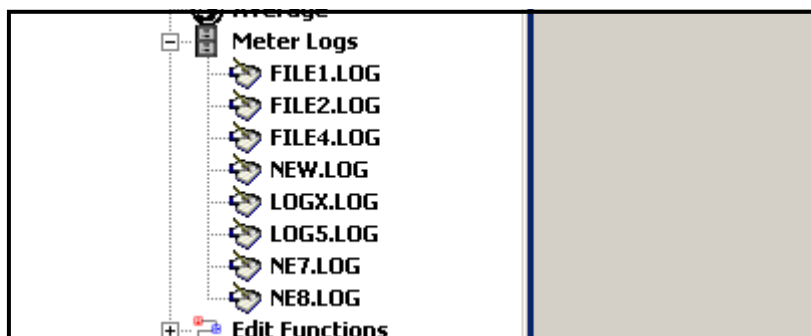

Figure 19: An Expanded Meter Logs Option
1. From the *New Meter Browser* in PanaView, expand the network tree and click on the *Meter Logs* option. If you have created one or more logs, the tree will appear similar to *Figure 19*.